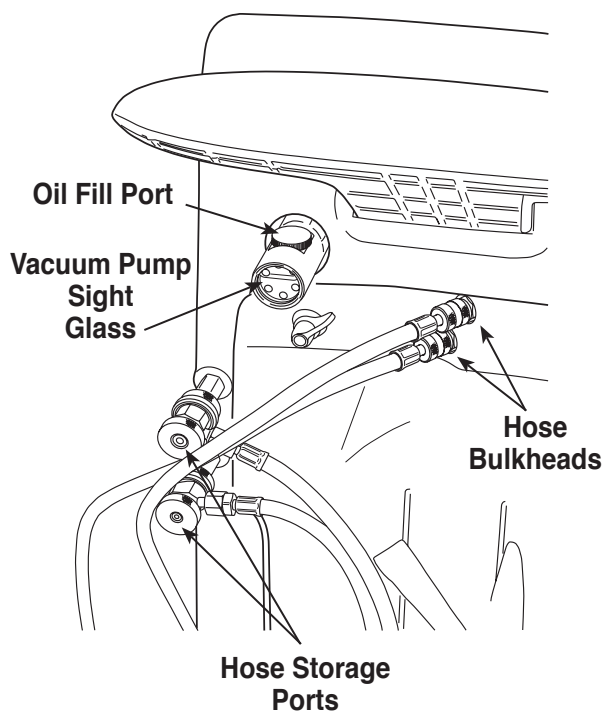

Figure 4
1. Connect the service hoses from the bulkhead fittings (located on the side of the unit) to the storage ports. See Figure 4. Connect the red hose to the fitting labeled HIGH; connect the blue hose to the fitting labeled LOW.